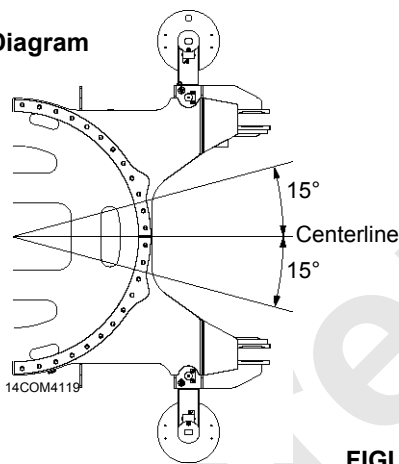

FIGURE 4-14
- Do not swing 15° either side of center (Figure 4-14)